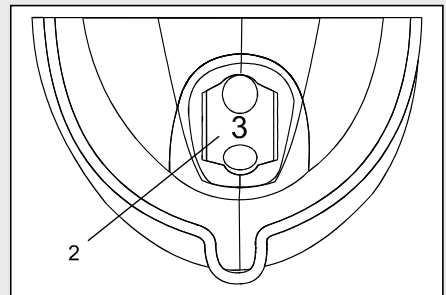

Fig. 6
The cut-out saw is equipped with a variable speed control located below the ON/OFF switch. To run the tool at its slowest speed, rotate the speed control wheel (2) to number "1" (Fig. 6). To increase the tool speed, rotate the speed control wheel in the opposite direction. Maximum speed will be achieved at "6".